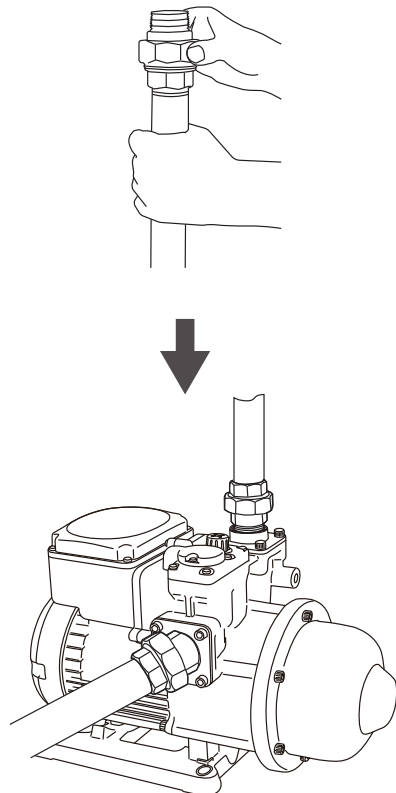

Fig. 2
2. Install union to inlet and outlet piping prior installing them to pump flanges( See Fig 2 ).